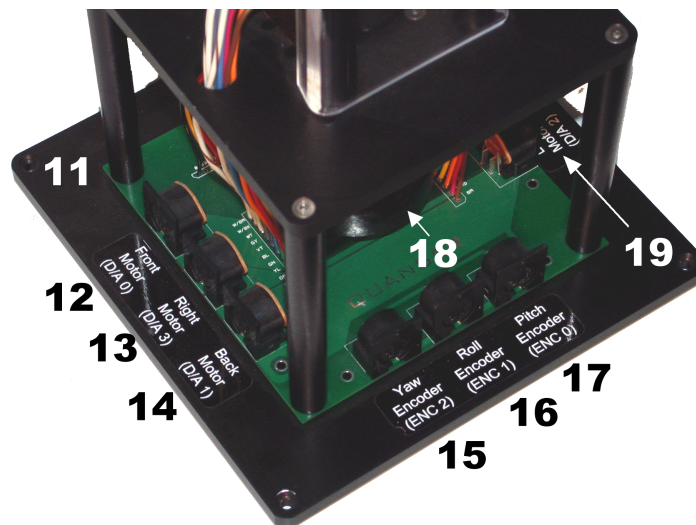
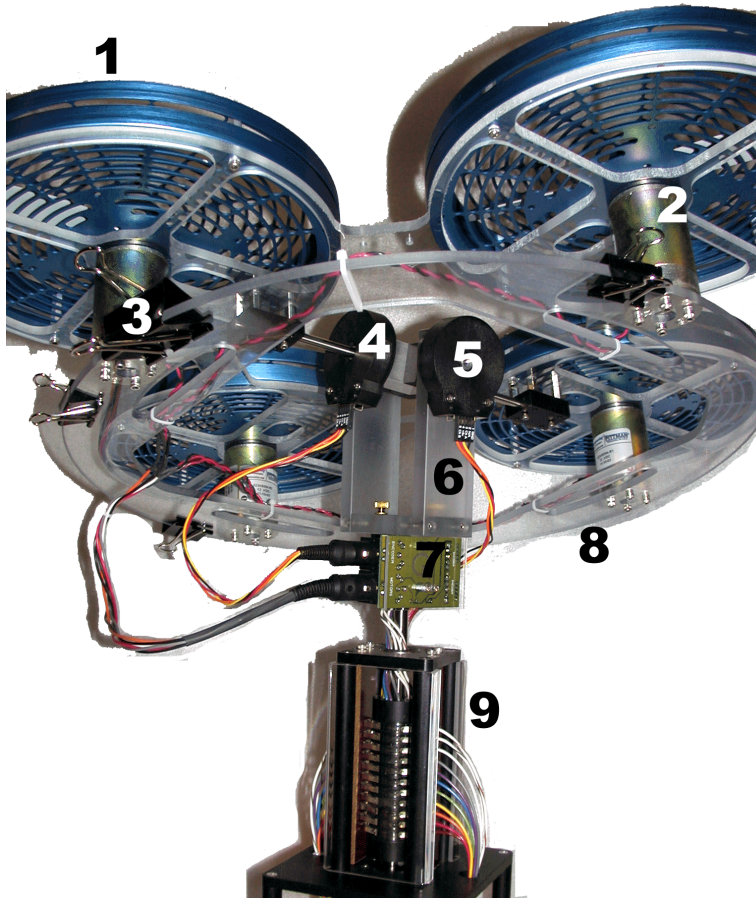
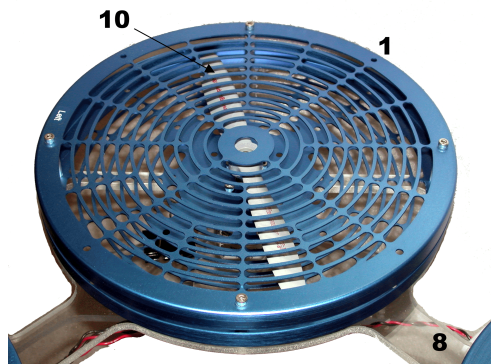

Figure 2.1: Quanser 3 DOF Hover base components
Figure 2.2: Quanser 3 DOF Hover plant components
Figure 2.3: Quanser 3 DOF Hover propeller assembly components
The components comprising the Quanser 3 DOF Hoversystem are labeled in Figure 2.1, Figure 2.2, and Figure 2.3, are described in Table 2.1. The motors, propeller assemblies, and encoders are described in more detail below.
1. Place the base of the 3 DOF Hover, Component # 11 shown in Figure 2.1, on a table or on the floor.
2. Assemble the body to the main base by aligning the pitch/roll encoder frame, i.e., the yoke shown in Figure 2.2 as Component #6, with the top of the base and tighten the thumb screws.
3. Connect the flat 5-pin connector from the pitch encoder (Component #5 in Figure 2.2), i.e., the encoder that is labeled *Pitch*, to the 5-pin connector on the Encoder/Motor Circuit, Component #7 in Figure 2.2. Align the GND pin #1 on the cable to the BR pin on the Encoder/Motor circuit.
4. Connect the flat 5-pin to 5-pin-stereo-DIN cable from the roll encoder (Component #4 in Figure 2.2) to the 5-pin-stereo-DIN connector on the Encoder/Motor circuit board that is labeled *ENCODER*.
5. Connect the flat 5-pin-stereo-DIN to 5-pin-stereo-DIN cable from the four motors (Component #2 in Figure 2.2) to the 5-pin-stereo-DIN connector on the Encoder/Motor circuit board that is labeled *MOTORS*.
1. Using the supplied weight clips, Component #3 in Figure 2.2, move the clips around the edge of the circular frame until the frame is balanced, i.e., parallel with the floor.